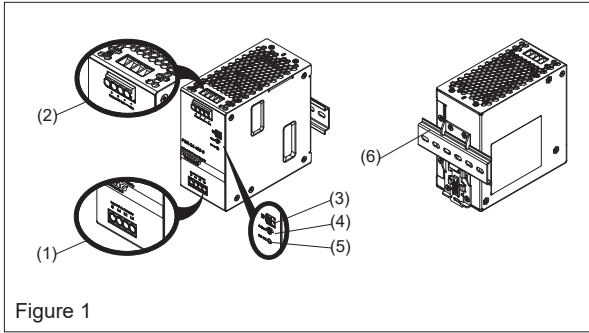

Figure 1
2. Device description (Fig. 1)
4.1. Input connection (Fig. 1, Fig. 6)
Use L1, L2, L3 and PE connections of input terminal connector (see Fig. 1 (1)) to establish the 3 x 380-500 VAC connection. Fig. 6 shows the connection to the various network types.
4.2. Output Connection (Fig. 1 (2))
Use the "+" and "-" screw connections to establish the 24 VDC connection. The output provides 24 VDC. The output voltage can be adjusted from 24 to 28 VDC on the potentiometer. The green LED DC OK displays correct function of the output (Fig. 1 (5)). The device has a short circuit and overload protection and an overvoltage protection limited to < 35 VDC.